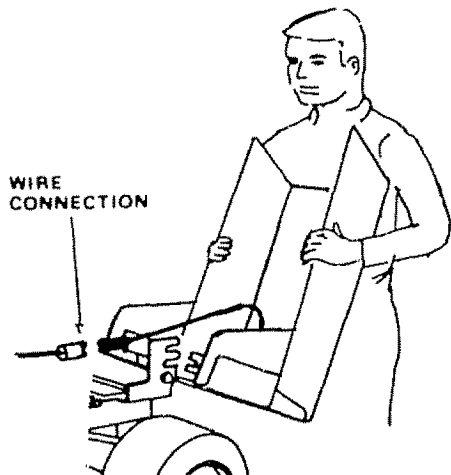

FIGURE 35
- c. Standing in front of tractor, grasp sides of hood assembly and raise up and off tractor (Fig. 35).